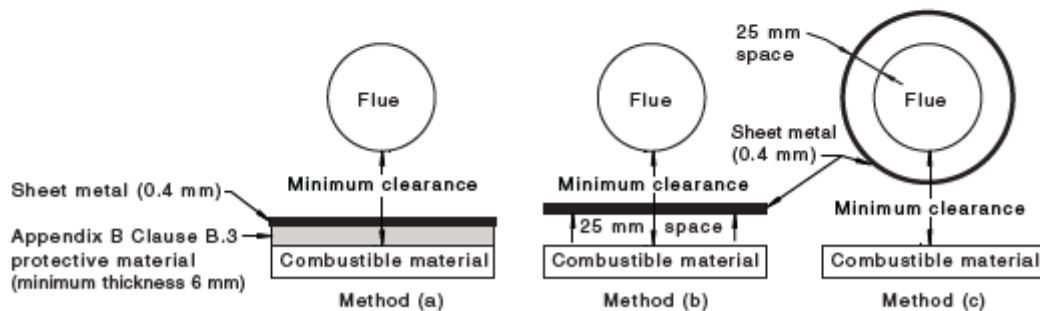

Figure 6.8.12 — Methods of protecting a combustible surface
- Protection of *combustible surfaces* in accordance with Appendix C Clause C.3 attached to the *combustible surface* and covered with sheet metal with a minimum thickness of 0.4 mm as per Figure 6.8.12 \(a\).
- Sheet metal having a minimum thickness of 0.4 mm spaced out at least 25 mm from the *combustible surface* using non-combustible spacers as per Figure 6.8.12 \(b\).
- Sleeving the *flue* with a duct of 0.4 mm sheet metal that has an air space around the *flue* of at least 25 mm as per Figure 6.8.12 \(c\).